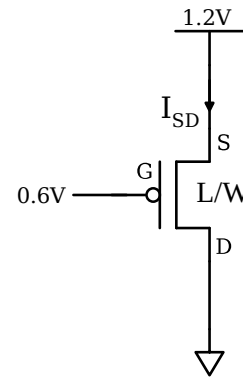

Figure 4.2
- e.** What is λ for the PMOS in Figure 4.2?